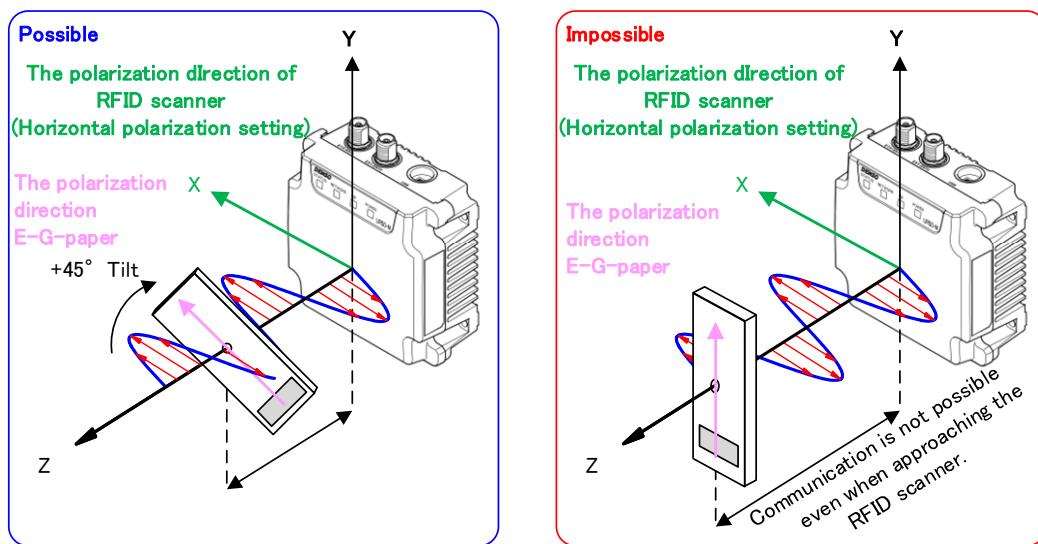

Figure 7.6 E-G-Paper is Tilted
- When the tag is tilted by 45° , the communication distance drops to about a quarter of the normal value. When it is tilted by 90° , the tag cannot communicate with the RFID scanner even it is close to the RFID scanner. Referring Figure 7.6.